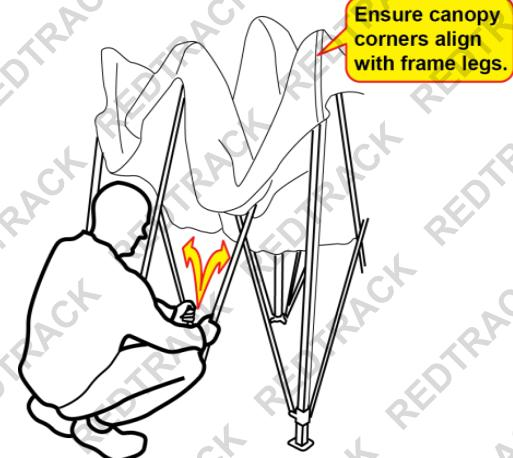
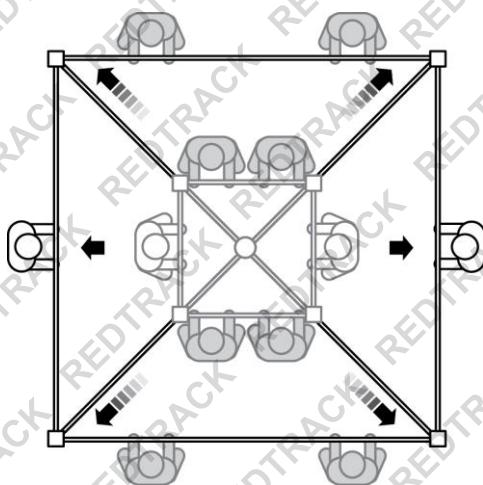

Fig 3 – Preparing to Expand the Frame
Fig 4 - Hold Frame, Lift and Expand
4. On opposite sides of the gazebo, grab the middle section of the frame with both hands (Fig 3). Simultaneously lift the sections of frame up and slowly move backwards, allowing the frame to expand to its full size (Fig 4). For larger model gazebos it is recommended to have 2 people on each long side of the frame (shaded figures in the image) and to lift together to expand the frame.